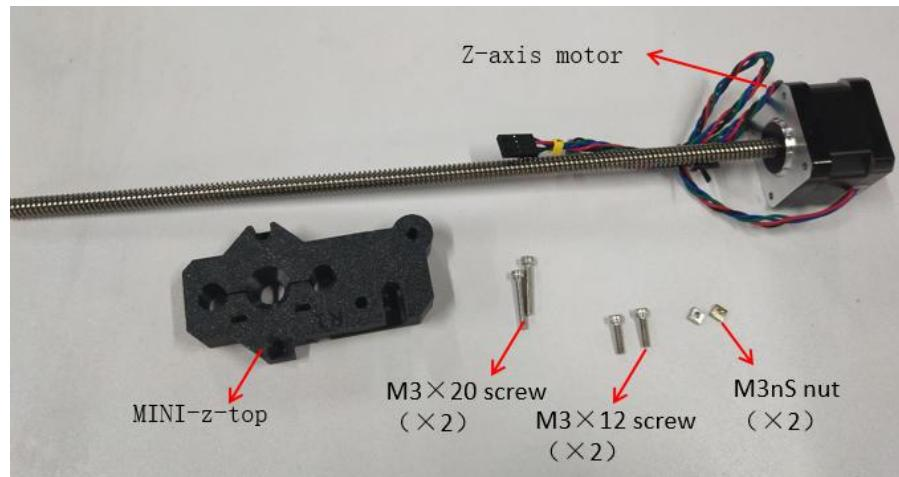

Figure 3.1.1
**Step 3-1-1:** As shown in Figure 3.1.1, prepare the materials and check whether the quantity of materials is correct, and prepare for the next installation.